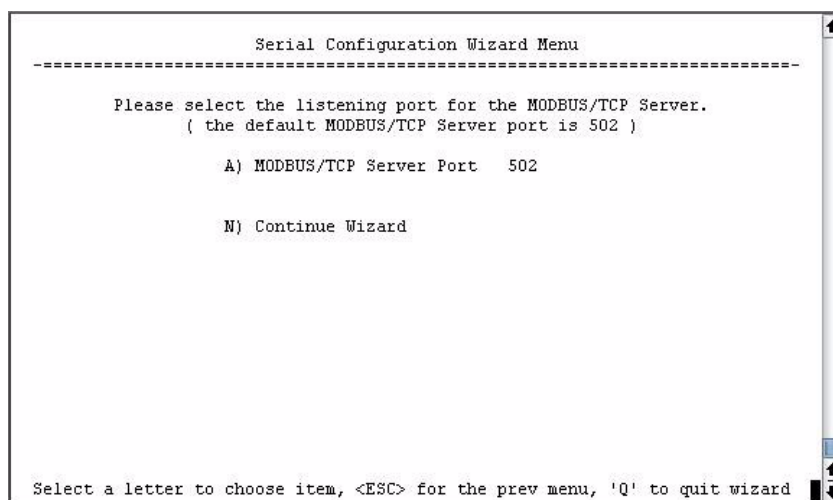

Figure 3-56. Modbus/TCP Server Listening Port
3. On the next screen (Figure 3-56 on Page 92), choose the listening port you wish to use for the Modbus/TCP server. The default is port **502**. Press **N** to continue.